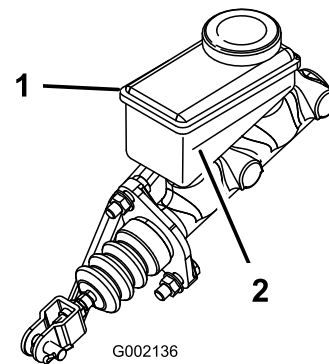

Figure 14
3. Look at the outline of the fluid level at the side of the reservoir. (Figure 14).
- B. Add DOT 3 brake fluid to the reservoir until the fluid level is above the Minimum line (Figure 14).
5. Install the rubber plug in top of the dash (Figure 14).